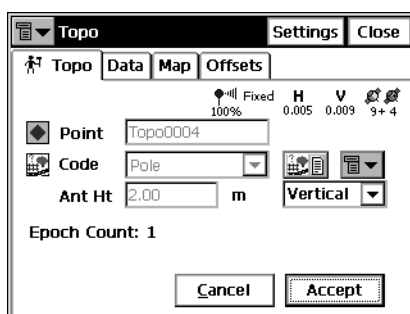

Figure 5-31. Topo – Start
- **Start**: starts the survey process. After pressing, the button changes its name on **Accept** and a new button **Cancel** appears along with the counter of the epochs collected (Figure 5-31 on page 5-25).